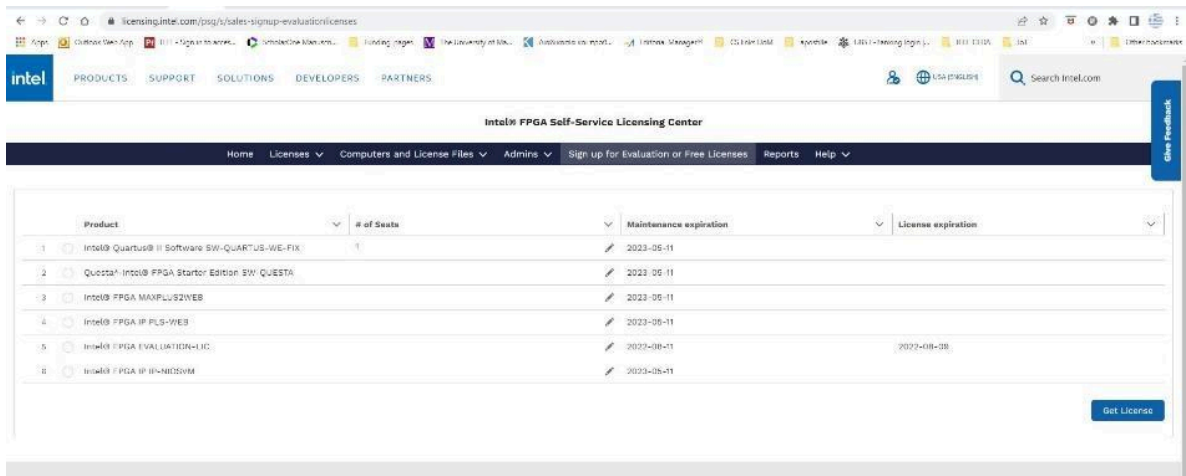

Fig. 1. SSCL Screen
- After registration, you will receive a confirmation email from Intel. Using this email, log on SSLC and click on the “Sign up for Evaluation or Free Licences” tab and select Questa\*-Intel® FPGA Starter Edition, as depicted in Fig. 1, where you edit the number of seats to one. Click on “Get license”.